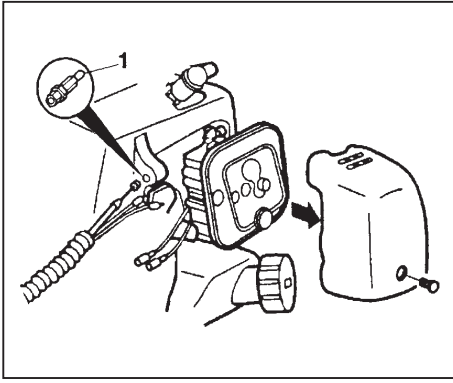

Fig. 1-4
Remove air cleaner cover. (Fig. 1-4)
Set outer-receiver (1) (if so provided) into wire guide and put throttle wire through the outer-receiver. (Fig. 1-4)